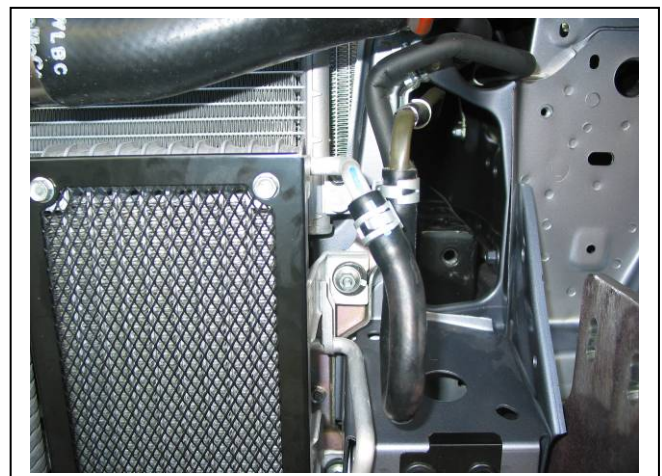

Figure 4
7. Gently bend front tube on oil cooler vertically (if fitted) as per **figures 4 and 5**, to clear mount.